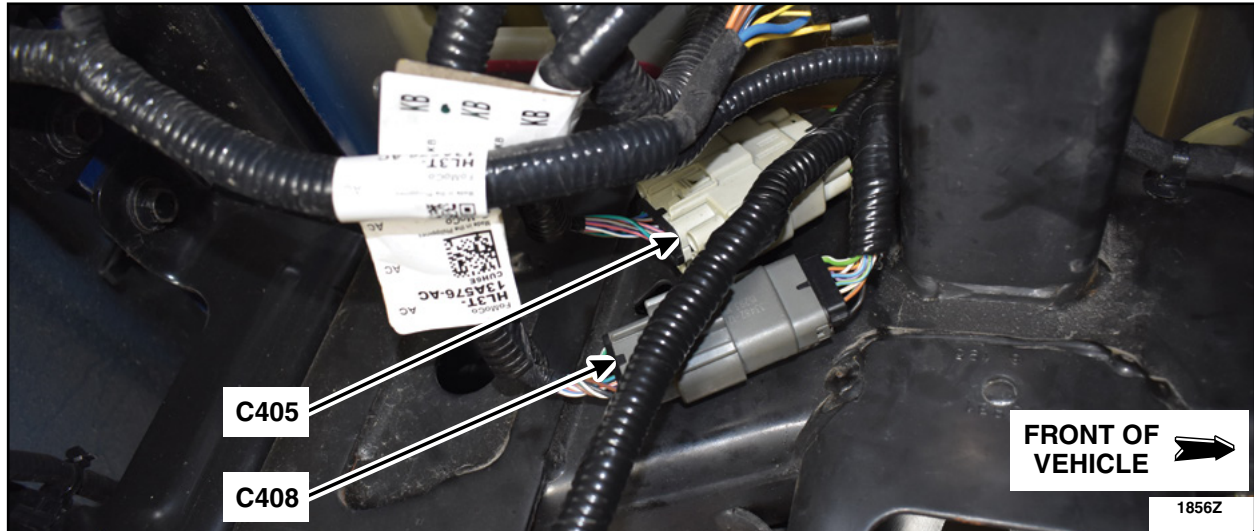

FIGURE 27
31. Connect inline connector C405 and C408. See Figure 27.